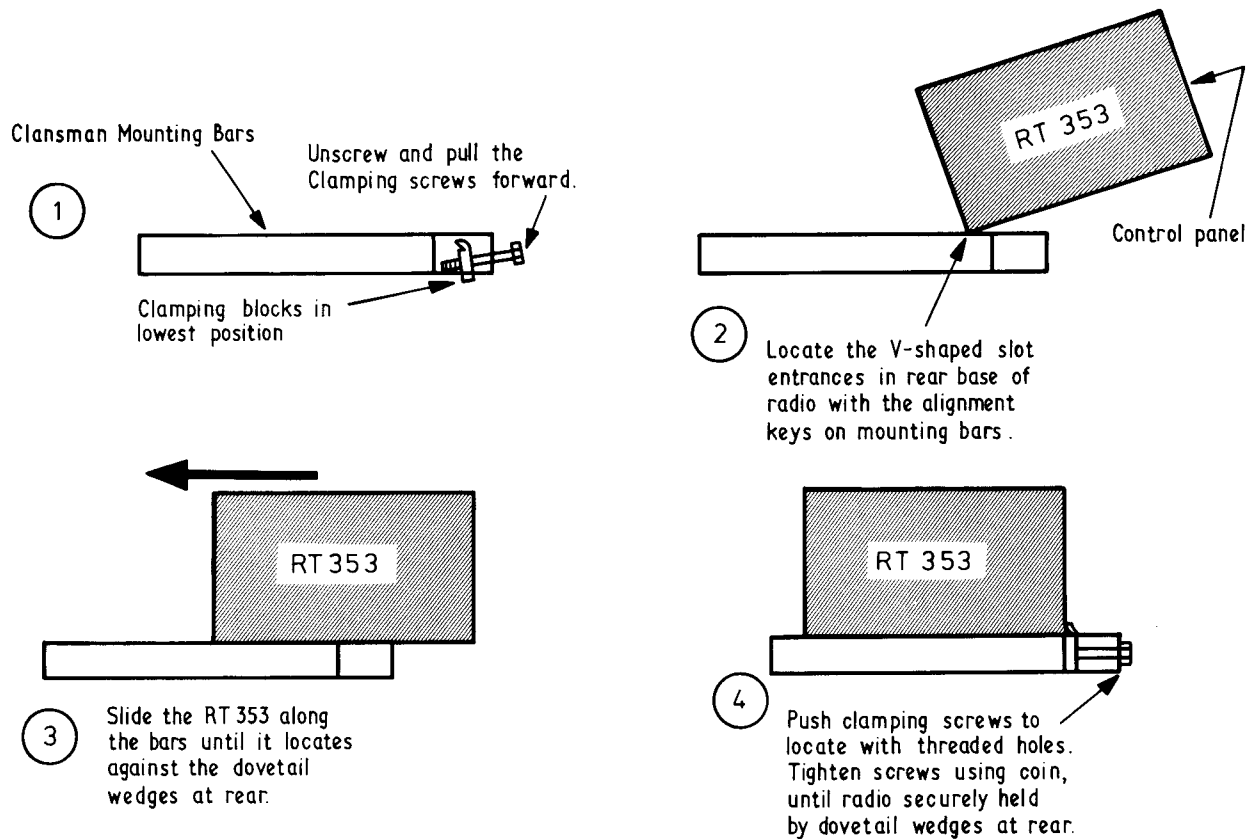

FIG. 4 FITTING THE RT353 TO CLANSMAN MOUNTING BARS
2.2 The RT 353 can be installed in both armoured and soft skinned vehicles. Clansman mounting bars should be used and fitted as shown in Fig. 4.